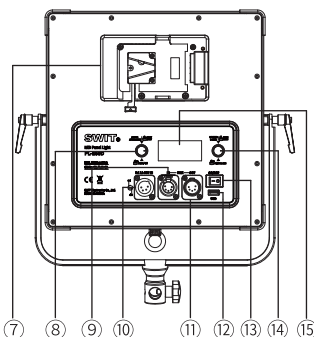
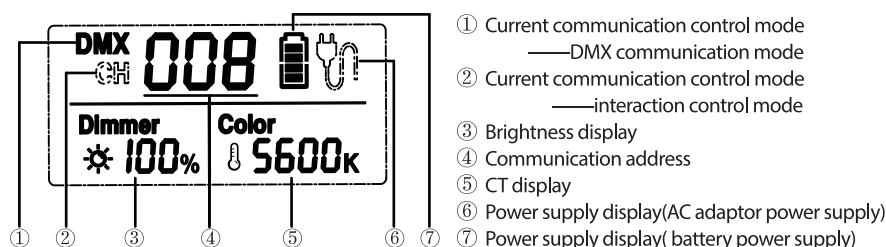

Fig.3 PL-E60D
Fig. 5 LCD display
The light provides two ways of power supply, by V-mount or Gold mount battery or by 4-pin XLR AC-DC power. Turn on the light (Fig. 3 ⑬) and set the color temperature (Fig.3 ⑧) and brightness (Fig. 3 ⑭) to user's requirements.
The light provides two ways of adjusting the color temperature and brightness: normal adjusting mode and quick adjusting mode. User can switch the adjusting mode by press the dimmer knob and color temperature adjusting knob (Fig.3⑭/⑧). User can quickly set the dimmer and color temperature to their needs by combining two adjusting modes.
Press and hold dimmer knob (Fig.3⑭) for 2s to enter communication address setting interface, the address setting range is 001 to 512.
LCD digital tube (Fig.5 ④) flashing means the current address is selected, rotate the brightness adjusting knob (Fig.3⑭) to set the current address, press the brightness adjusting knob (Fig.3⑭) to confirm, when finish the last setting, press the brightness adjusting knob (Fig.3⑭) or wait for about 5s to quit.
Connect the lights network through using DMX cable. Press and hold color temperature adjusting knob (Fig.3 ⑧) for around 2 seconds to complete the communication control setting.
The upper left corner of LCD shows "DMX" (Fig. 5 ①) indicating that the communication control mode currently is the DMX communication mode. In this mode, connect the DMX signal output device to the lights network, and set up the communication address to work normally.
The upper left corner of LCD shows "CH" (Fig. 5 ②) indicating that the communication control mode currently is interaction control mode. In this mode, set the target lights to the same communication address to work normally, and the master slave machine is not distinguished.